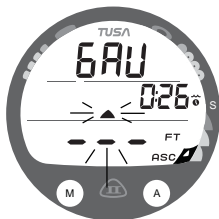

Fig. 80 - GAUG DV3 MAIN
**DV3 Main**, information includes (Fig. 80) -